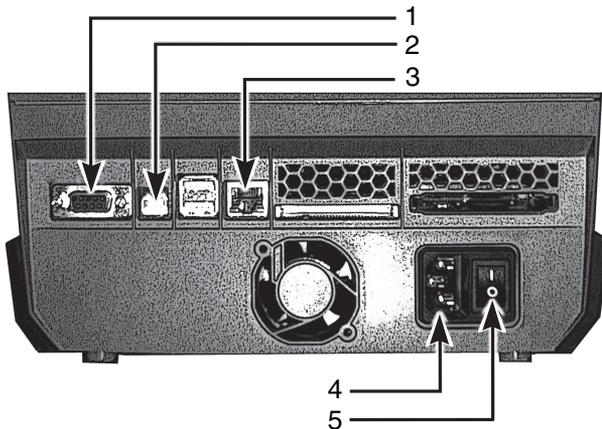

Figure 1, Interfaces and Connectors
1. Plug the power cable into the power connection socket on the back of the printer (**Figure 1, 4**).
5. Turn on the power switch on the back of the printer (**Figure 1, 5**). The printer will perform a self test and then go into Ready mode.
The printer has a RS-232 port (**Figure 1, 1**), a USB port (**Figure 1, 2**) and an Ethernet port (**Figure 1, 3**).
2. Connect the printer to the computer using the supplied USB cable. The USB cable connects to the printer at the USB port (**Figure 1, 2**) and to a USB port on the computer.
2. Connect the printer to the computer using an RS-232 cable (not provided). The RS-232 cable connects to the printer at the port (**Figure 1, 1**) and to the computer.
2. Connect the printer to the computer using an Ethernet cable (not provided). The Ethernet cable connects to the printer at the Ethernet port (**Figure 1, 3**) and to an Ethernet port on the computer or Local Area Network (LAN).